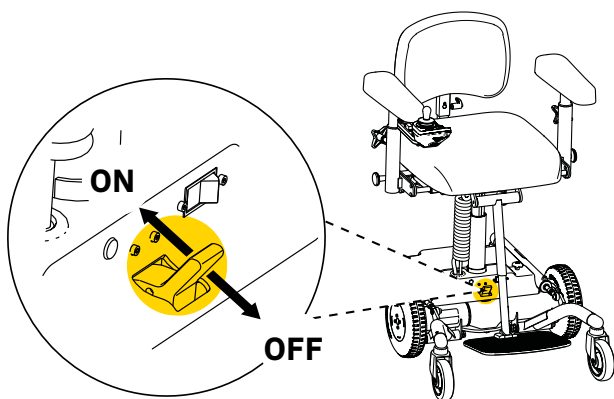
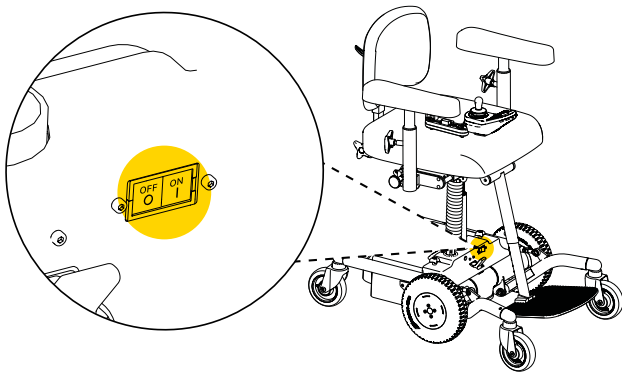

Figure 3.2. Disengaging the brake.
Figure 3.4. Contact breaker
- The device moves by rolling on a flat surface. The brake must be disengaged and the automatic fuse switched off in order to roll the device. To release the brake, pull the lever to the "OFF" position. To activate the brake, push the lever to the "ON" position, see Figure 3.2. To switch off the automatic fuse, press "OFF". Prior to charging and when the device is to be put back into service, the circuit breaker must be reset; press "ON", see Figure 3.4. After the circuit breaker has been disconnected, the control unit must be restarted twice to restore the device's functions.
- In the event of a longer period of storage, the battery should be disconnected. This can be effected using the contact breaker, see Figure 3.4. Press "OFF" to disconnect the batteries. When the battery is disconnected, it must be charged every four months in order to retain its functionality. Prior to charging and when the device is to be put back into service, the circuit breaker must be reset; press "ON". After the circuit breaker has been disconnected, the control unit must be restarted twice to restore the device's functions. Fully charge the batteries before use, see 2.3. Charging.
- The battery must be disconnected during transport. This can be effected using the contact breaker, see Figure 3.4. Press "OFF" to disconnect the batteries. Press "ON" to reset the circuit breaker. After the circuit breaker has been disconnected, the control unit must be restarted twice to restore the device's functions.